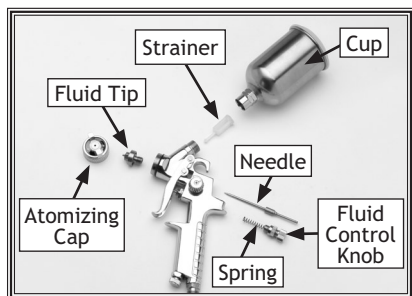

Figure 10. Disassembly for cleaning.
4. Disassemble the gun by unscrewing the fluid control knob, removing the spring and needle (Figure 10).
5. Unscrew the atomizing cap with your fingers and the fluid tip with the service wrench. The fully disassembled gun should look like Figure 10.